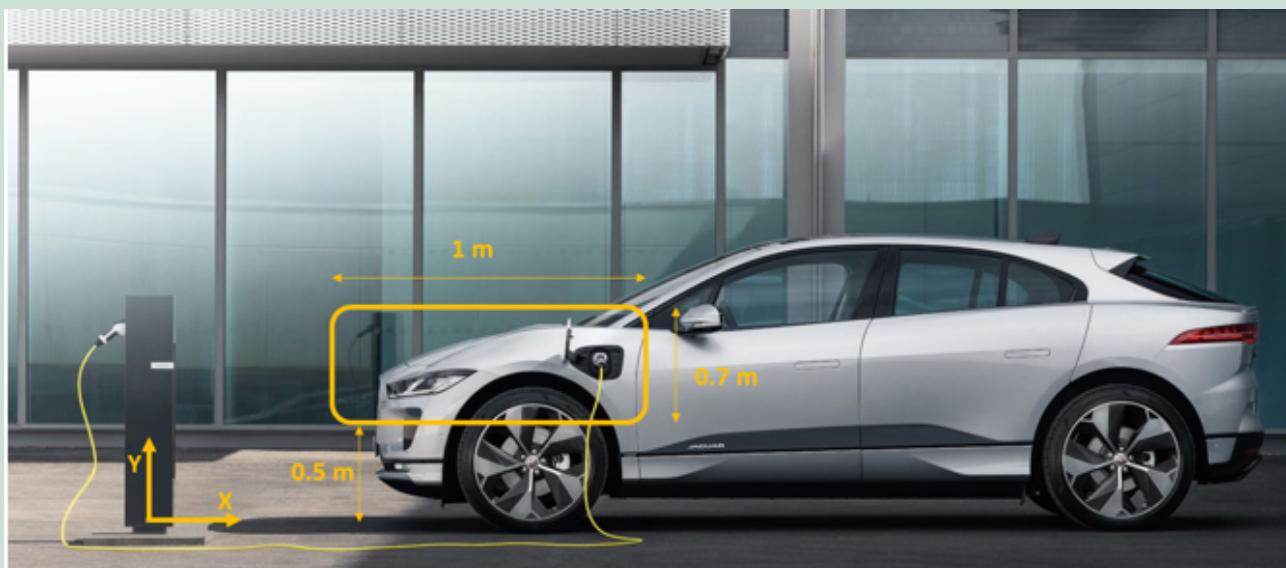

Fig. 1: Boundary within which the Charging point of the vehicle can lie (SIDE VIEW)
- Robot charger system should detect the location of the charging port on the vehicle (anywhere within the bounding box as shown in Fig 1 and 2), and the end effector should safely reach the location and plug into the port.